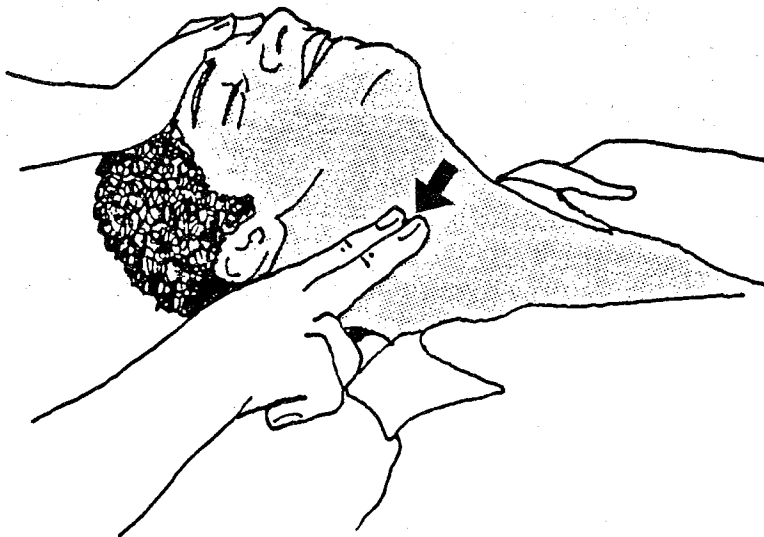

Figure 3 - Check Pulse
- **Check pulse** - Check the pulse using the carotid artery in the neck. To find the carotid artery, place your fingertips on the victim's windpipe and slide two fingers toward you into the groove between the windpipe and the large neck muscle. Press firmly but gently to feel for the pulse (*Figure 3*). If a pulse is not present, begin cardiac compressions immediately.